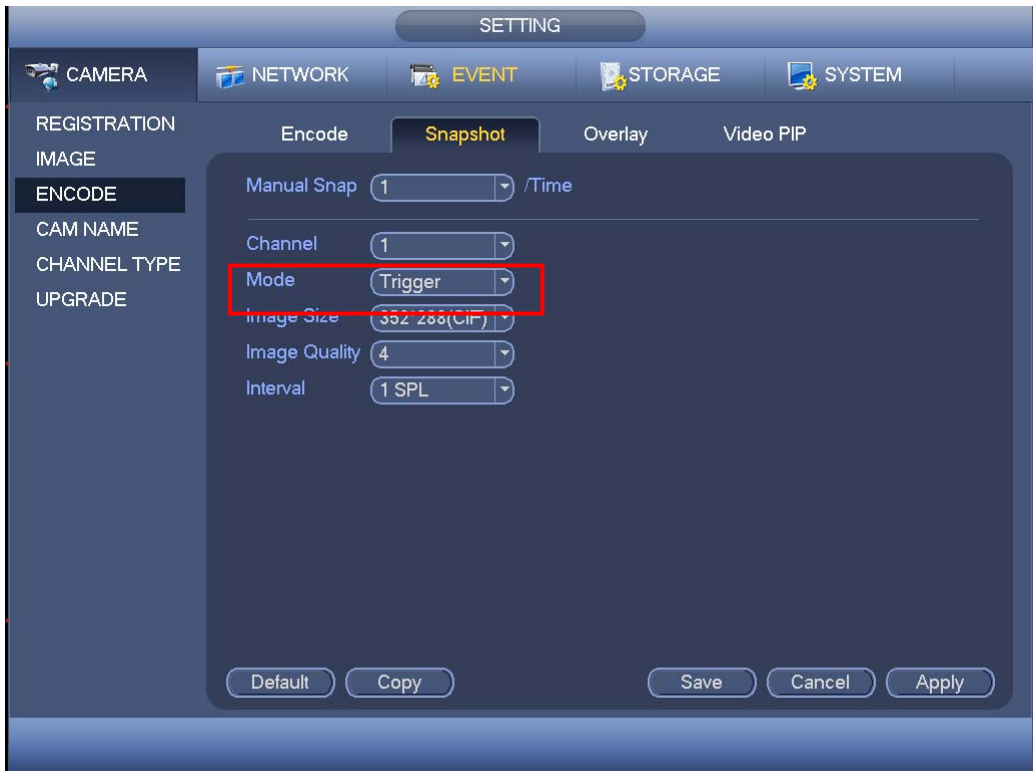

Figure 4-76
- In main menu, from Setting->Camera->Encode->Snapshot interface, here you can input snapshot mode as trigger, size, quality and frequency. See Figure 4-76.